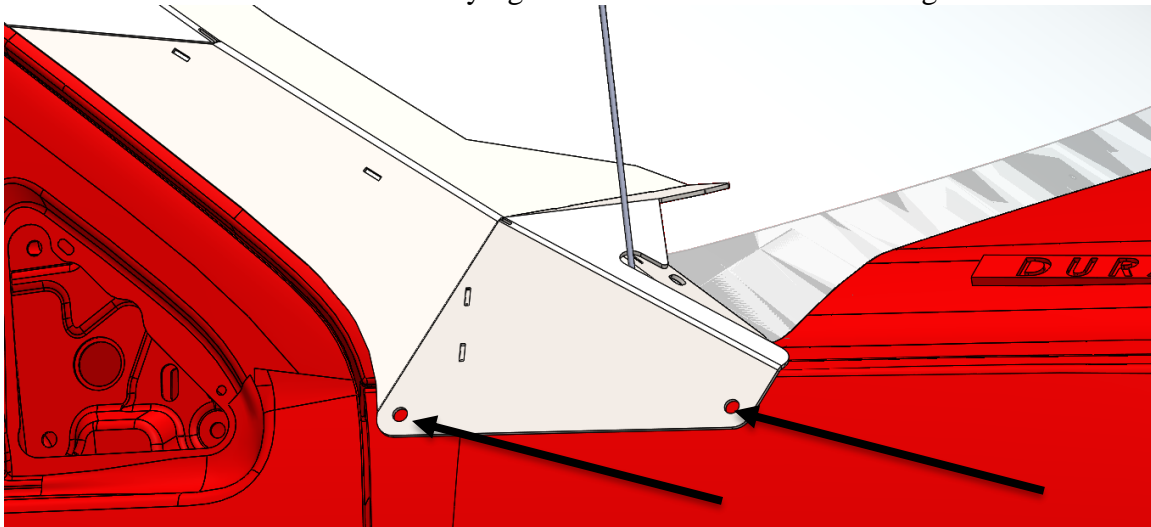

Fig 13
- d. Mark the two Rivnut hole locations as indicated in **Fig 13** by the black arrows and on both driver and passenger arms.